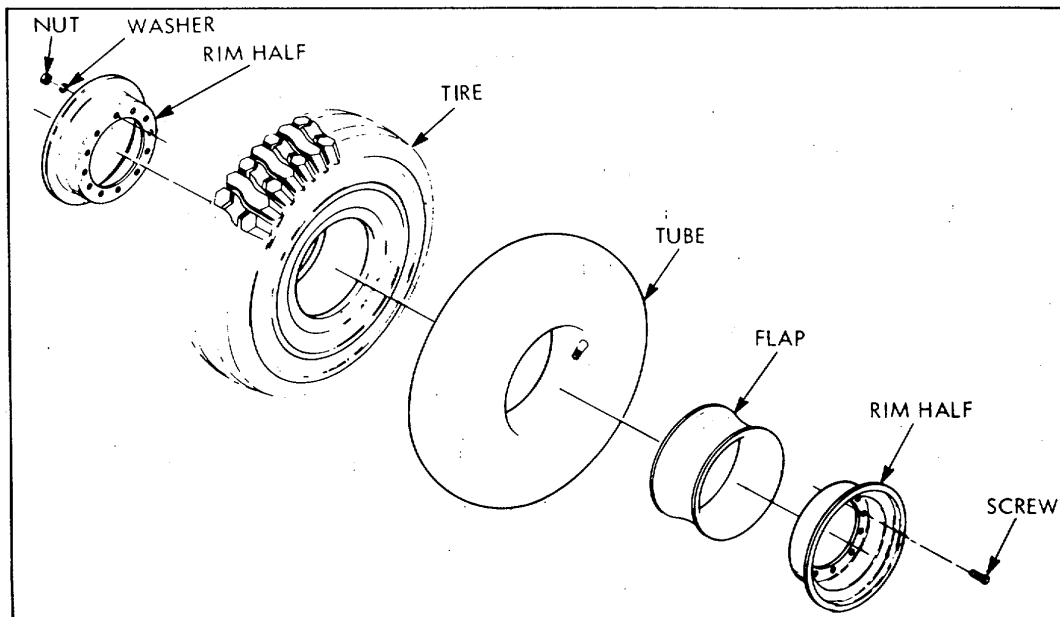

Figure 6-5. Rear Wheels and Tires, Exploded View
- (2) Remove screws, nuts and washers (Figure 6-5) holding rim halves together, separate rim halves and remove flap, tube and tire.